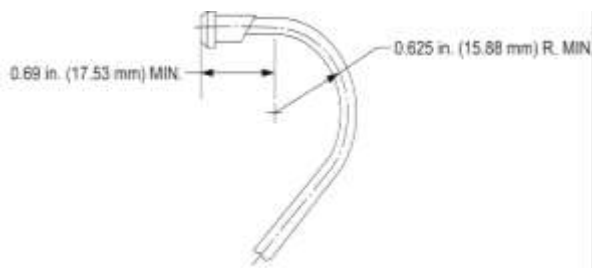

Figure 4
- B. Examine each fuel hose for damage, leaks, dents, pits, nicks, kinks, stains (from fuel leaks), cracks, brittleness, nearby heat sources, chafing, looseness, and sharp bends. Refer to Figure 4 which shows the minimum acceptable bend radius for a bend in the fuel hose. Replace (**do not try to repair**) a worn, damaged, chafed, brittle, kinked, or loose fuel hose. (A loose fuel hose could have been subjected to vibrational forces and be weakened. Cracks can develop at kinks in fuel hoses.)
- (1) Make sure each clamp securely supports the fuel hose to prevent fuel hose movement due to vibration, friction, or motion frequencies. **Do NOT use plastic tie straps as clamps.**
- (2) Examine the cushion on clamps for deterioration. If cushions are deteriorated or missing, replace the clamp with a new clamp with the cushion intact. The fuel hose could need to be replaced per guidelines in Table 1.
- (3) **If a fuel hose had been in service and clamps were not installed, replace the fuel hose with a new fuel hose (as a precaution since vibration can cause cracks in the fuel hoses.)**
- (4) Make sure the clamps are securely attached. If the clamps are loose, replace the fuel hose.